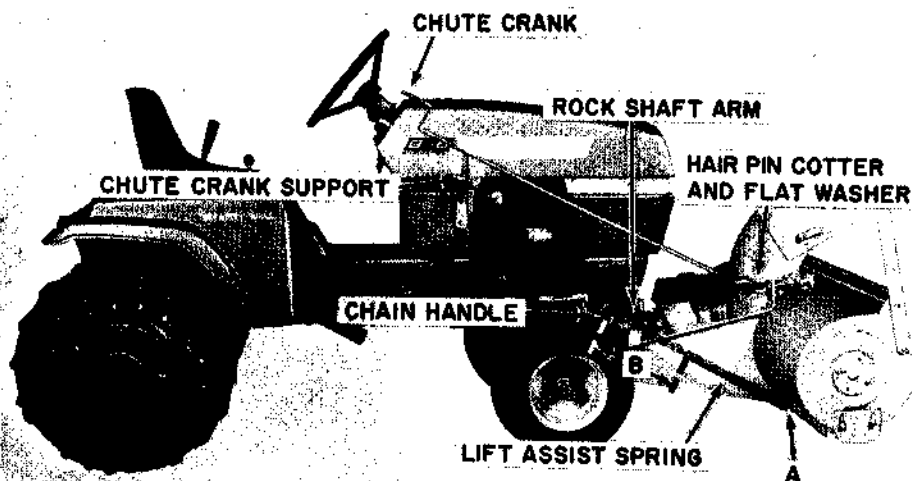
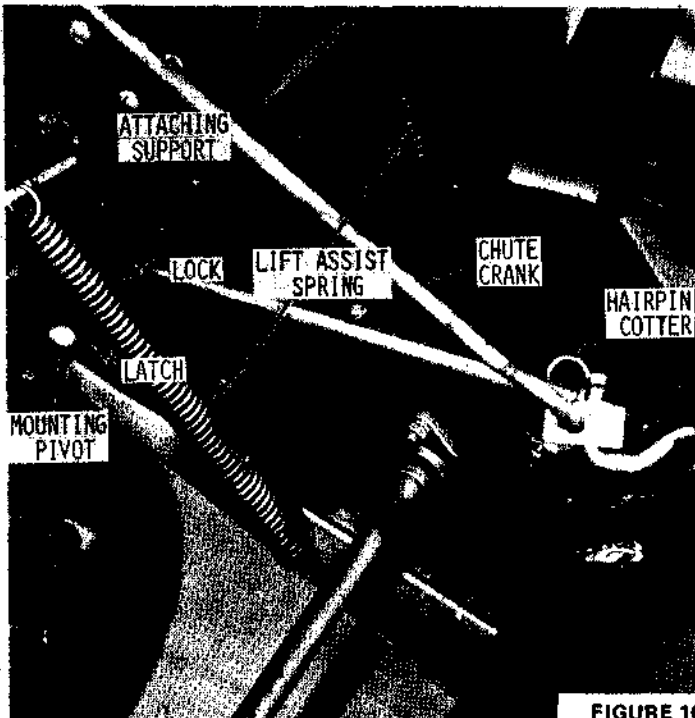

FIGURE 6
FIGURE 10
2. Secure the drift cutters, Figure 6, to the auger housing with $3/8"$ x $3/4"$ capscrews, lockwashers and nuts.
3. Install the skid shoes as shown in Figure 6. Install each shoe at the same height. Secure with $3/8"$ x $1"$ carriage bolts, flat washers, lockwashers and nuts. Place flat washers next to the slots.
4. Insert chute crank through the hole in the chute crank support, (Figure 6) and insert opposite end into universal joint on the snow head, Figure 10. Secure with hairpin cotter.
5. Remove front running board support mounting hardware on the right side of the tractor. Position chute crank support as shown in Figure 6. Secure with $3/8"$ x $1 1/4"$ capscrews, lockwashers and nuts.
1. Place sno-thro mounting, pivots in the tractor saddle brackets and secure with the latches and locks, Figure 10.
3. Attach lift assist springs as shown in Figures 6 and 10. *NOTE: The springs can be attached to the sno-thro frame in any of three different mounting holes. The front hole provides maximum flotation and easiest lifting of the sno-thro. The rear hole provides*
4. Insert chute crank through the hole in the chute crank support, Figure 6, and insert the opposite end through the universal joint on the snow head, Figure 10, and secure with a hair pin cotter.